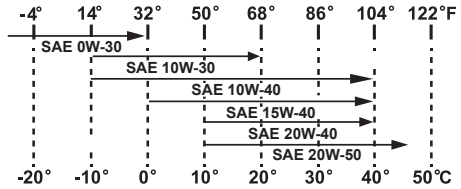

Figure 5-21
- 5. See Figure 5-21 for oil recommendations.